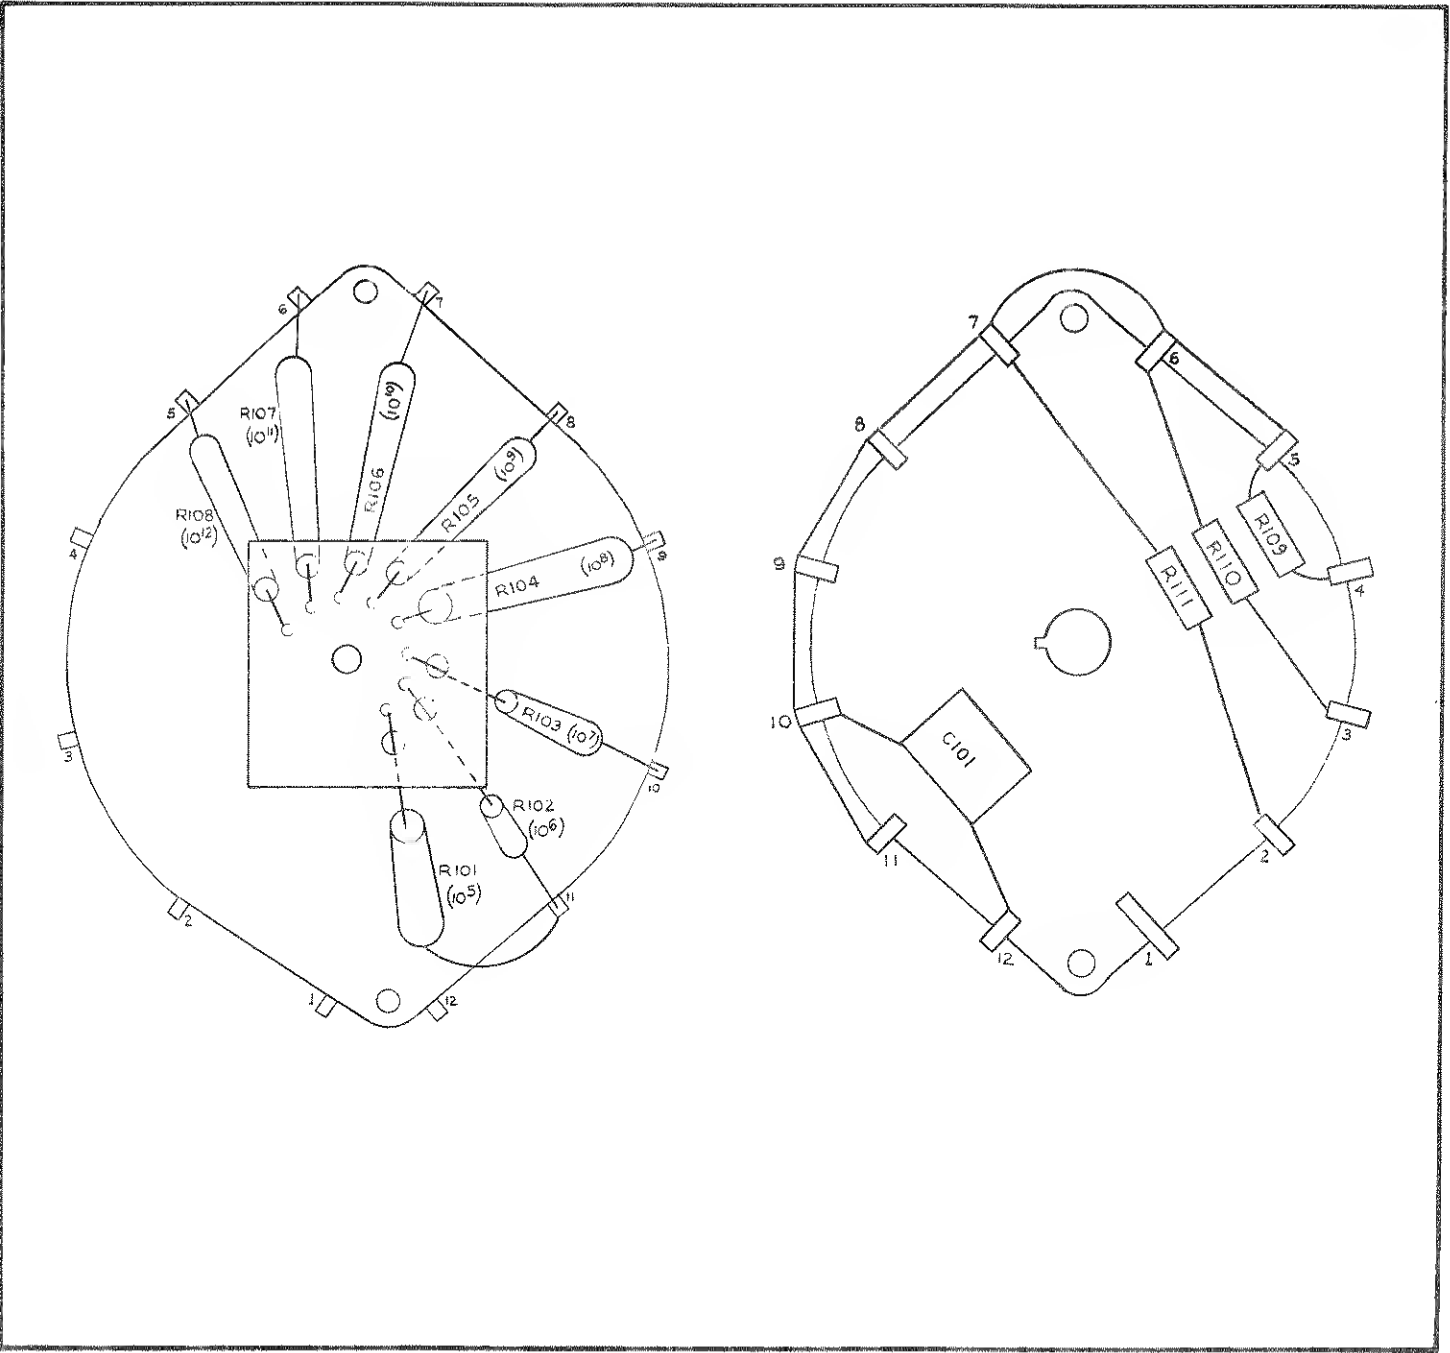

FIGURE 11. AMPERES Range Switch, S102.
1. Set the POLARITY Switch to + and connect the dc voltmeter between the red test jack, J202, and the emitter of transistor Q202 (Figure 11). The voltage should be -11.6 volts.
3. Measure the voltage at the anode of diode D204 (Figure 11). It should be -17.1 volts $\pm 10\%$. If this bootstrap voltage is not sufficient, transistor Q203 (Figure 11) will not operate and transistors Q201 and Q202 will be cutoff.